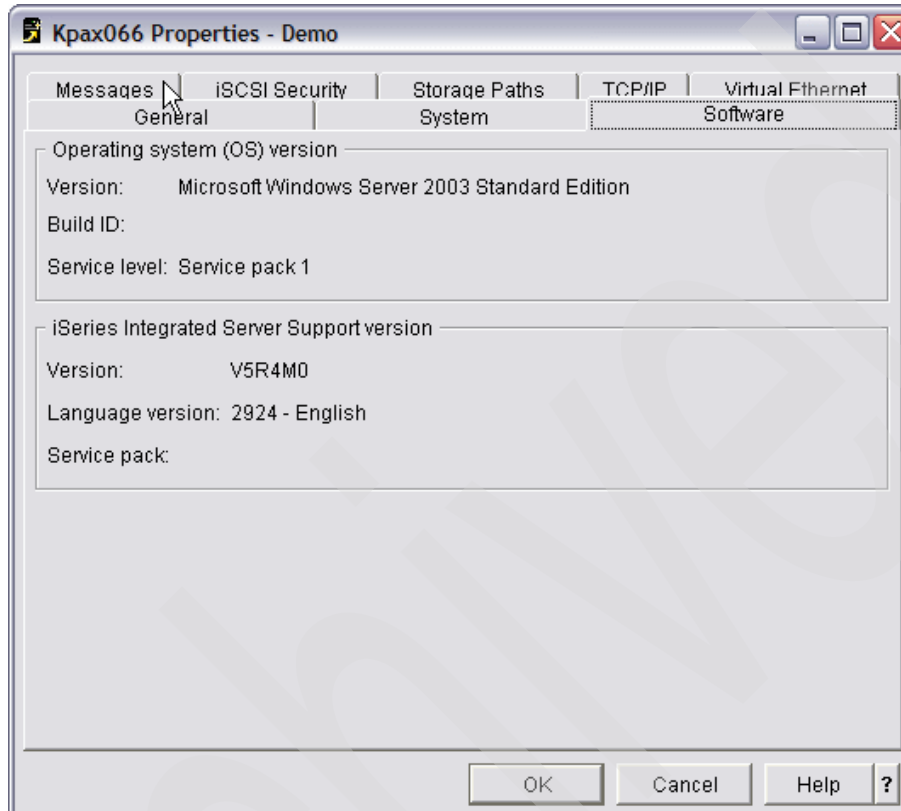

Figure 6-65 Software tab NWSD properties
► **Software page information for information about software levels (Figure 6-65 on page 213):**
- Operating system (OS) version pane: Information of the integrated server.